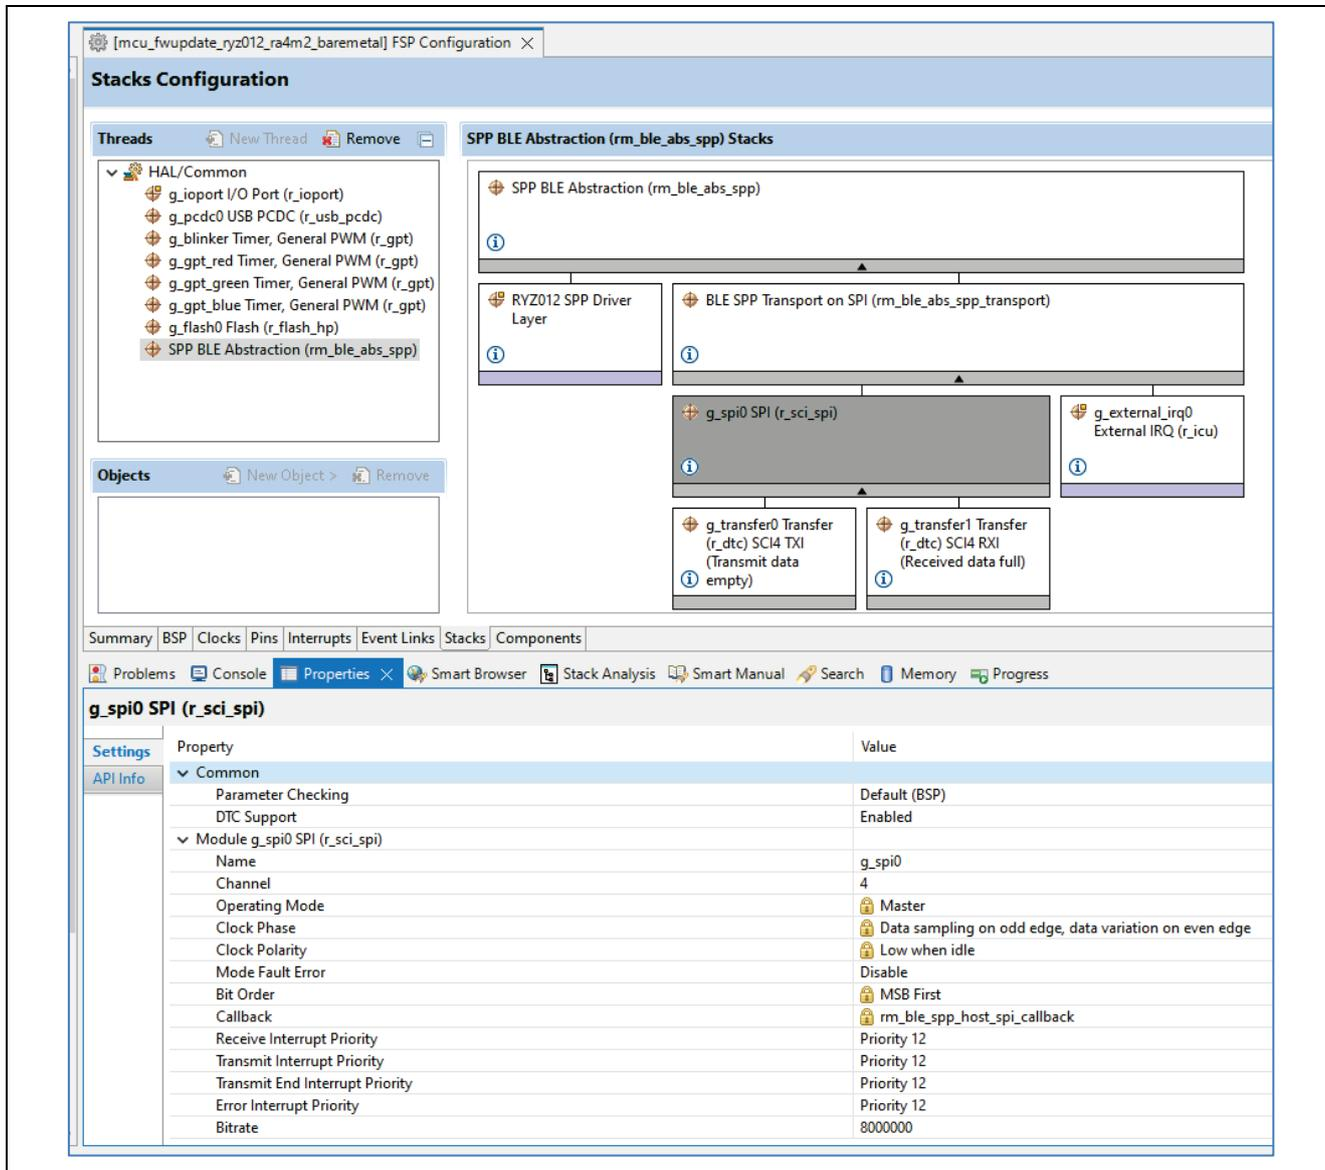
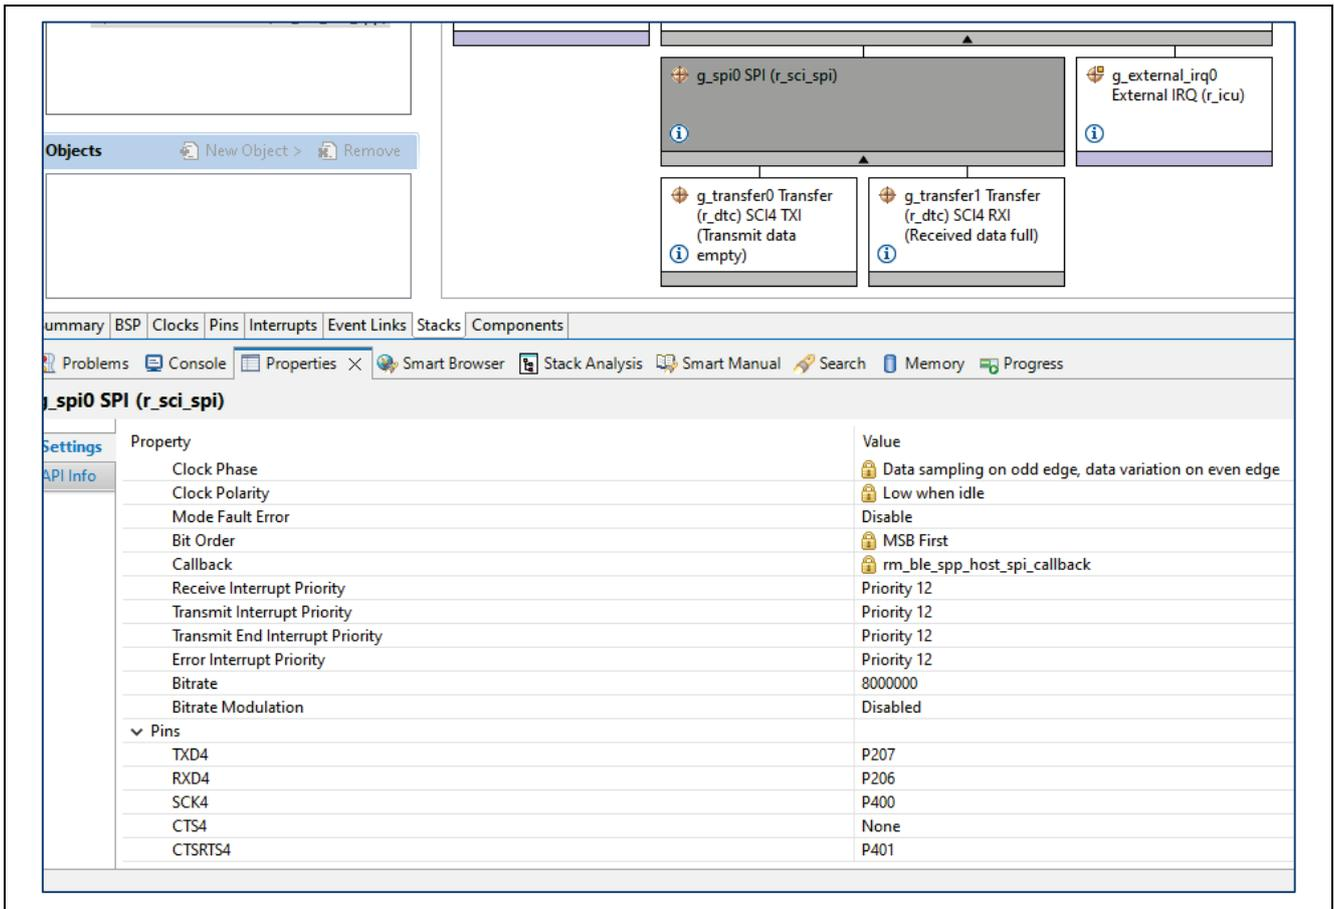
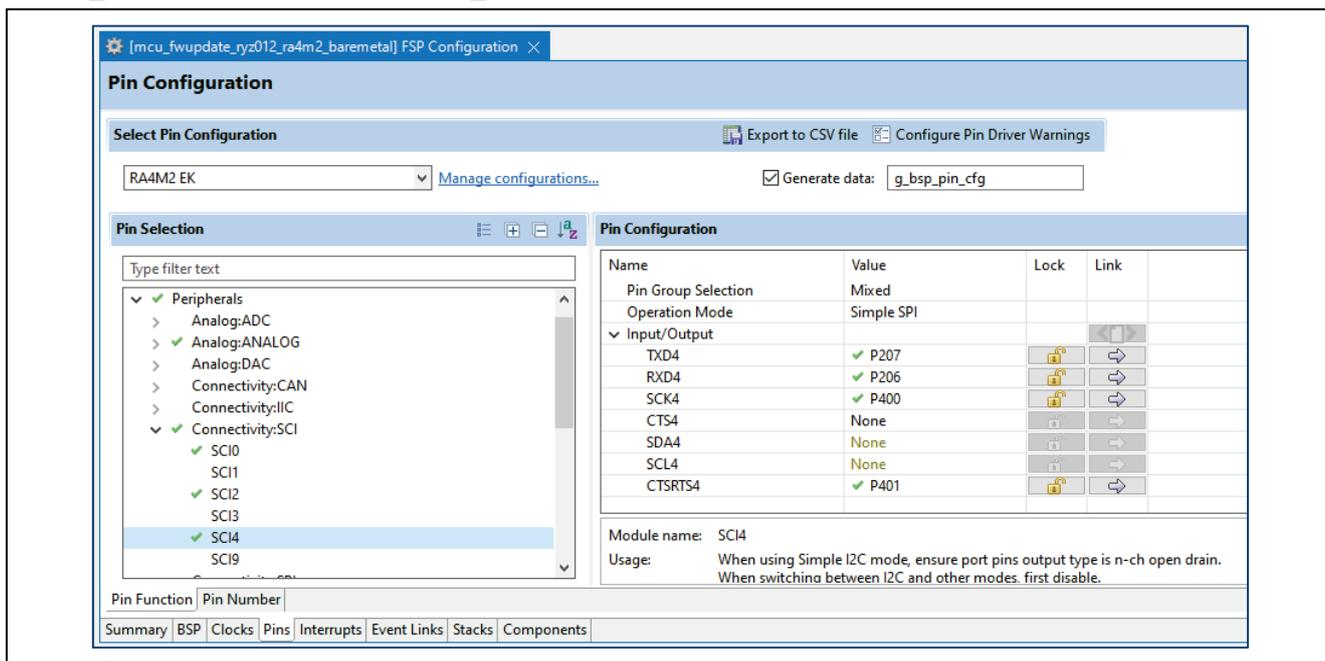

Figure 32. SPI Module Properties
Figure 33. SPI Module Properties – Pin Assignments
Figure 34. Pin Configuration > SCI
See Figure 32, SPI Module Properties. For the SPI configuration, it is necessary to specify which SCI channel to use. Match the SCI channel used and configure it as the SPI interface for PMOD1 in the **Pins Tab** see Figure 34, Pin Configuration > SCI to configure SPI Mode and Pins. Here SCI Channel 4 is being used on the RA4M2 in SPI Mode with the Pins assigned to PMOD1 (conn J26). See the Schematic for EK-RA4M2 for more details on the PMOD1 signals and pin assignments.
- Change the following SPI Configuration Properties in the properties window as in Figure 32 and Figure 33.
3. Add the DTC driver (r_dtc) to both transmit and receive. See Figure 32, SPI Module Properties, g_transfer0 SCI4 TXI and g_transfer1 SCI4 RXI for more details.
For the TXD_MOSI and RXD_MISO pin assignments, it is necessary to specify which SCI channel to use on the **Pins** tab. For the EK-RA4M2 with RYZ012 PMOD connected to PMOD1 (conn J26), SPI is assigned to SCI Channel 4 (SCI4) and the **Operation Mode** set to **Simple SPI**. The Input/Output Pins are assigned as specified in Figure 34, Pin Configuration > SCI. If your application uses a different RA MCU or PMOD connector then refer to the RA MCU Schematic to determine the Pin assignments for the PMOD connector.
Similar to configuring SPI, see section 5.4.2, Configure Peripherals for SPP BLE Abstraction Driver, to configure the UART Ports and Pins required for the PMOD connector on your board. In the step where Input/Output Pins are assigned as specified in Figure 34, Pin Configuration > SCI, set the Operation Mode to **Asynchronous UART**.